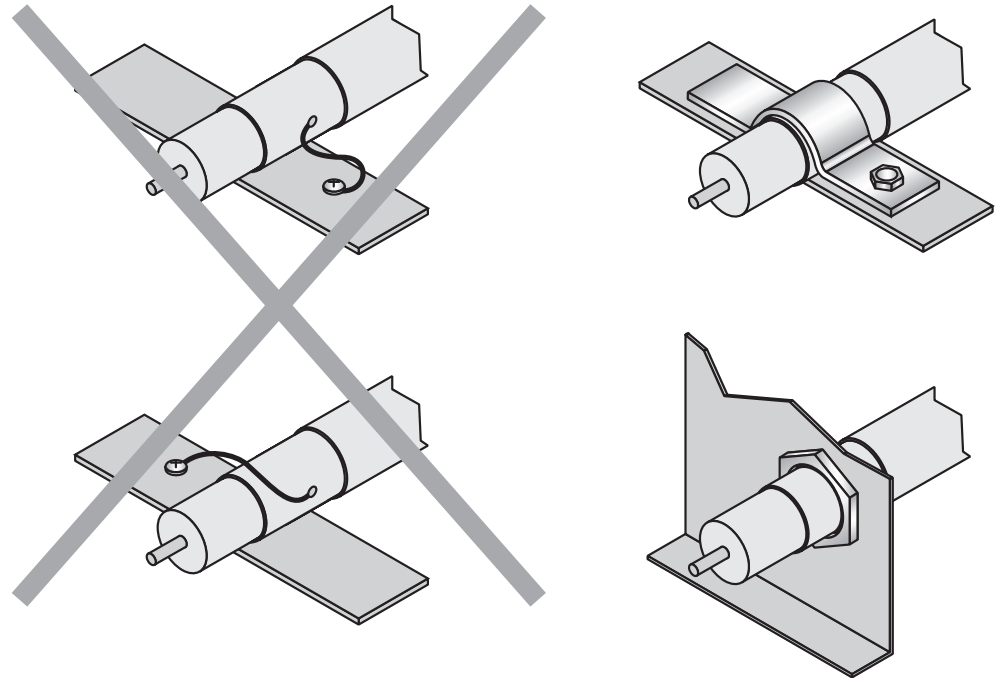

Figure 17: Make an extensive and low-impedance ground connection of the cable shield in the control cabinet.
- The cable shield in the control cabinet must be connected extensively to the operational earth see Fig. 17.